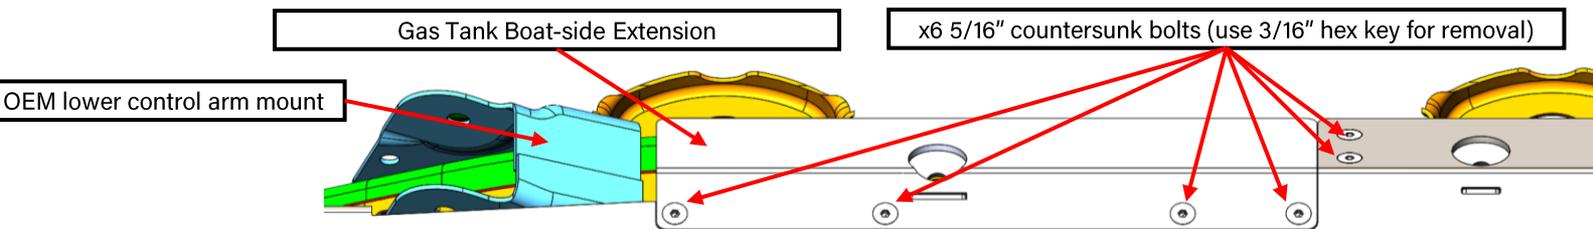
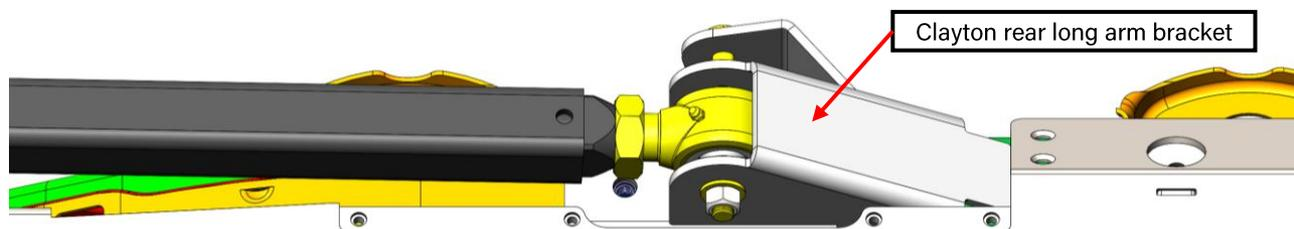

Figure 16: Boat-side Extension installed for a short-arm suspension setup using OEM lower control arm frame mounts
Figure 17: Boat-side Extension removed for a Clayton long-arm suspension setup using weld-on frame bracketry
13. **LONG ARM NOTE:** If you are installing the new gas tank skid plate on a vehicle with Clayton Off Road Rear Long Arm Brackets, note that you must remove the Gas Tank Extension for the new skid plate **before installing the new skid plate onto the vehicle.** See photos below. Use a 3/16" hex key to remove the x6, 5/16" countersunk bolts from the threaded inserts. Figure 16 shows the Gas Tank Extension installed with the OEM short-arm control arm mount. Figure 17 shows the extension removed, the OEM short-arm control arm mount removed from the frame, and the Clayton Rear Long Arm Bracket installed.